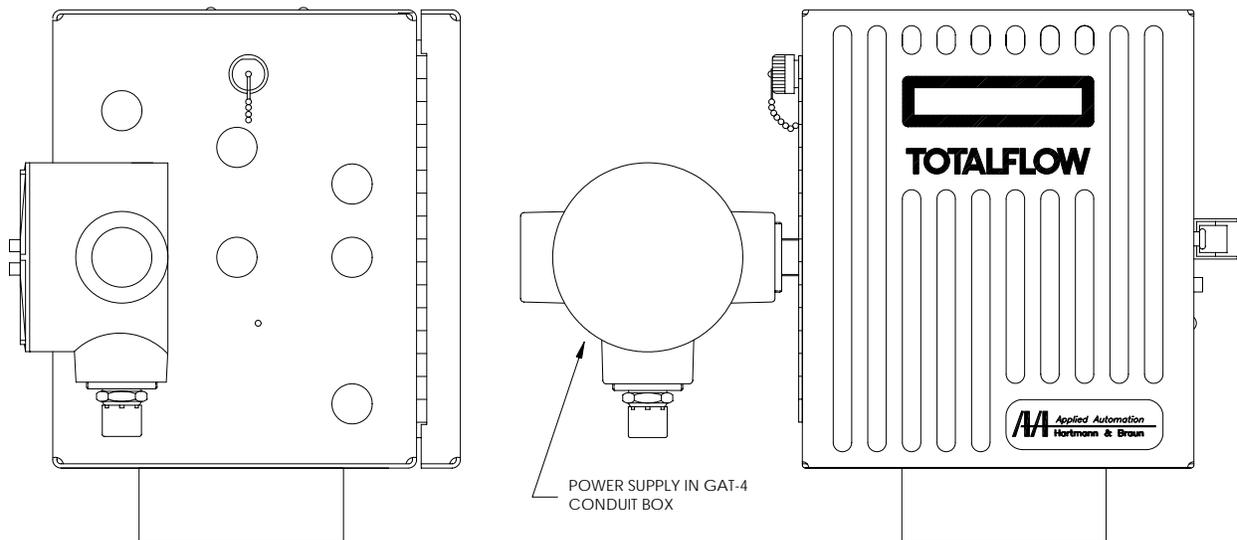

Figure 2 - 10 AC Charger mounted on RTU
2.	Remove one of the plugs from the side of RTU so that AC charging unit can be mounted without obstruction; see Figure 2 - 10.